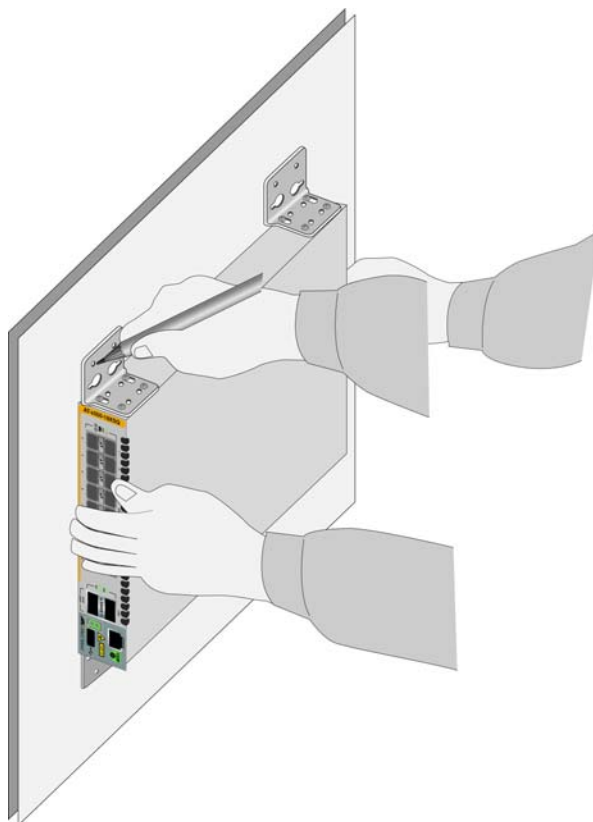

Figure 46. Marking the Locations of the Bracket Holes on a Concrete Wall
4. Have another people hold the switch on the concrete wall at the selected location for the device while you use a pencil or pen to mark the wall with the locations of the four screw holes in the four brackets (one screw per bracket). Refer to Figure 46 on page 88.